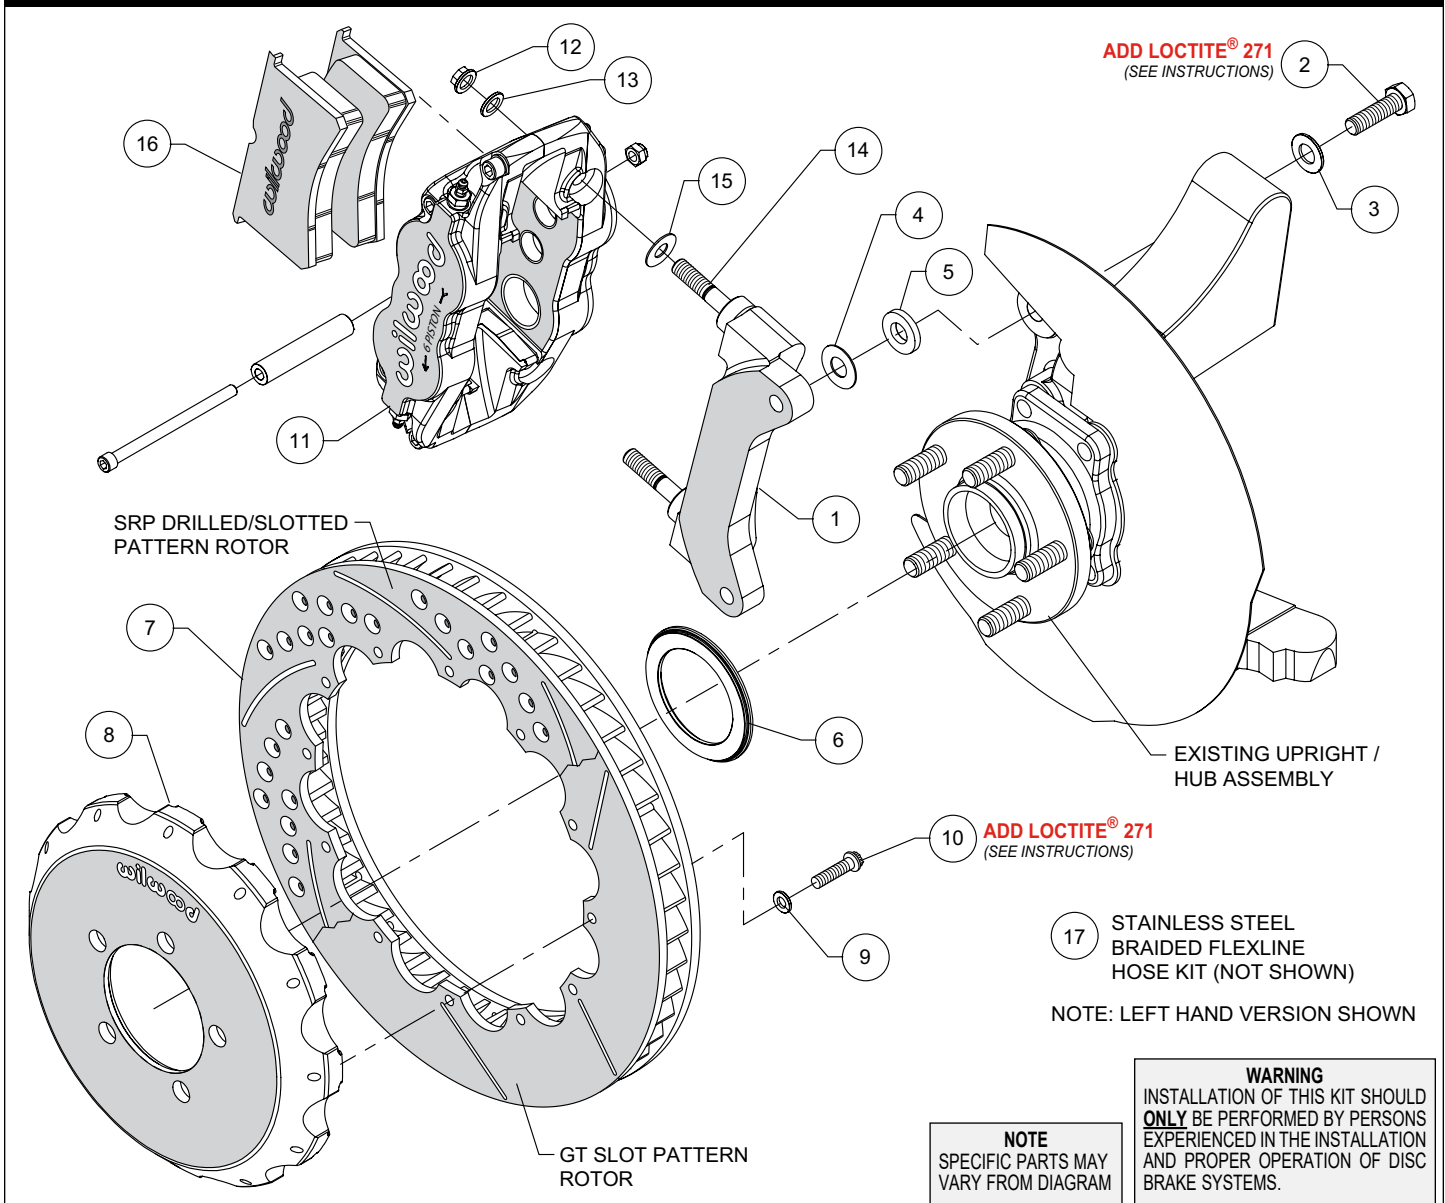
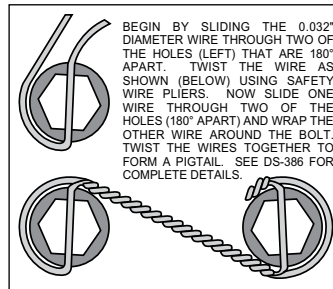

Figure 1. Typical Installation Configuration
Figure 3. Safety Wire Diagram
NOTE: Numbers in parenthesis refer to the parts list and Figure 1 on the preceding pages.
- The caliper mount bracket (1) should initially be installed with clean, dry threads on the mounting bolts. Orient the bracket as shown in Figure 1 and Photo 1, and install using washers (3) and bolts (2). Initially place one shim (4) and spacer (5) on each bolt between the bracket and upright, Figure 1. Temporarily tighten the mounting bolts. **NOTE:** *The bracket must fit squarely against the mount bosses on the upright.* Inspect for interference from casting irregularities, machining ridges, burrs, etc. Later, after the caliper alignment has been checked, the mount bolts will be secured using red *Loctite*® 271.
- Orient the rotor (7) and the hat (8) as shown in Figure 1 and Photo 2. Attach rotor to hat using bolts (10) and washers (9). Apply red *Loctite*® 271 to the bolt threads and torque to 155 in-lb using a criss-cross pattern. For an added measure of security, the bolts may be safety wired using standard 0.032 inch diameter stainless steel safety wire as shown in Figure 3. Please refer to Wilwood's data sheet DS-386 (available at www.wilwood.com/Pdf/DataSheets/ds386.pdf) for complete safety wire installation instructions.
- Slide the rotor registration adapter (6) onto the axle register on the axle hub with the smaller O.D. facing outward, Photo 3. Slide the hat/rotor assembly onto the axle hub. **NOTE:** *The hat must fit flush against the axle hub flange or excessive rotor run out may result.* Install three lug nuts (finger tight) to keep the hat/rotor assembly in place while continuing with the installation.
- NOTE:** *This kit contains distinct right and left hand calipers that must be mounted in a specific direction, as described below.* Initially place one .035" thick shim (15) on each stud (14) as shown in Figure 1 and Photo 4. Mount the caliper (11) onto the bracket (1) using lock nuts (12) and washers (13), Figure 1. Ensure that the caliper is mounted so that the largest pistons are at the rotor exit end of the caliper, in relation to the direction of rotor rotation. Temporarily tighten the lock nuts and view the rotor through the top opening of the caliper. The rotor should be centered in the caliper, Photo 5. If not, adjust by adding or subtracting shims (4) between the bracket and the upright. Always use the same amount of shims on each of the two mounting bolts. Once the caliper alignment is correct, remove the bracket mounting bolts (2) one at a time, apply red *Loctite*® 271 to the threads, and torque to 60 ft-lb.